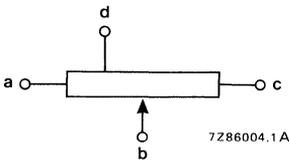

Fig. 1 Designation of terminals.
**Total resistance ( $R_{ac}$ )** – The resistance measured between the end-terminals a and c (Fig. 1). Also  $R_{tot}$  or  $R_{total}$ .
**Nominal resistance ( $R_{nom}$ )** – Nominal value of the resistance between the end terminals a and c (Fig. 1), the moving contact b at end-stop position.
**Maximum dissipation ( $P_{max}$ )** — Maximum amount of power which can be dissipated at a given ambient temperature, when the potentiometer is continuously loaded between the end terminals a and c (Fig. 1) and mounted on a steel panel of 100 x 100 x 1,5 mm by means of a nut (or on a printed circuit board for types with printed-wiring pins).